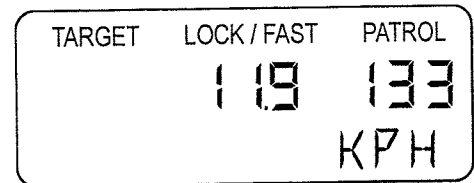

Fig. 25
4. The computed speed will be computed and shown in the patrol window. Fig. 25 is an example of a 440-meter measurement zone, an 11.9-second measurement interval, and a 133 km/h computed speed.